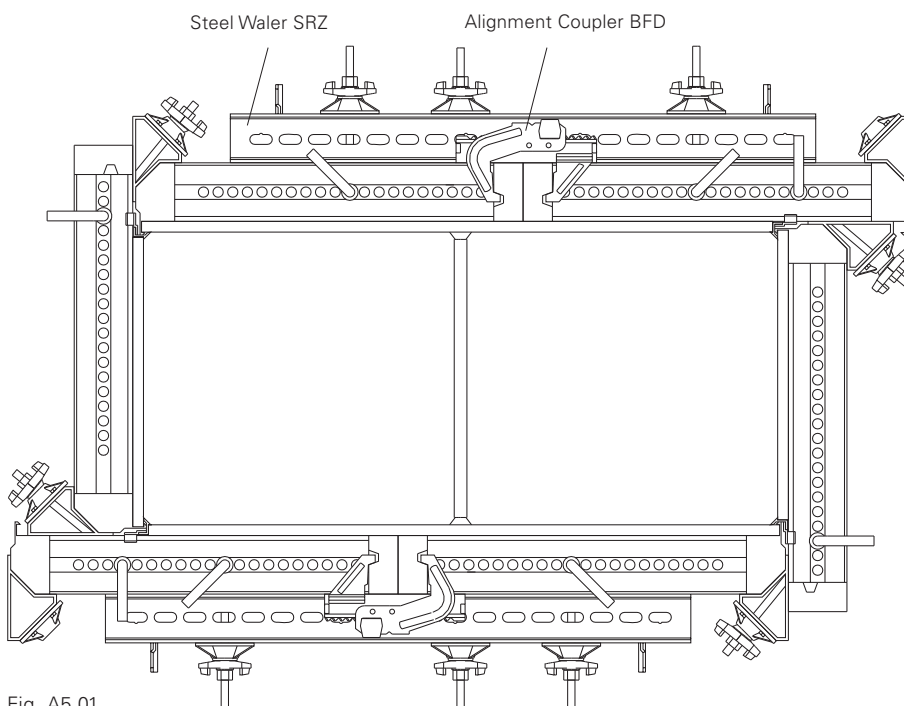

Fig. A5.01
2. Install tie in a central position at the height of the waler. (Fig. A5.01)